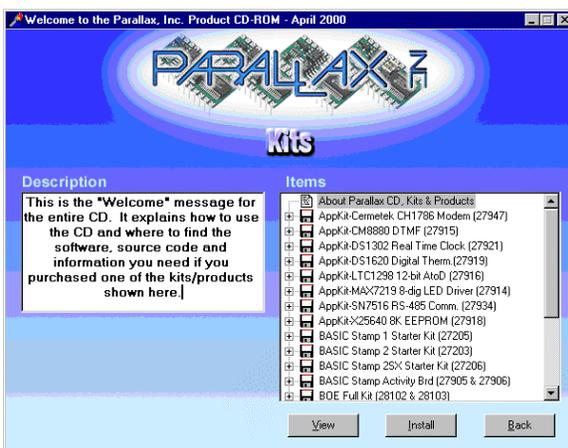

Figure 1.21: Welcome application (a) Kits page, and
The Parallax CD has a browsing program called the Welcome application that runs automatically after the CD is placed in your computer's CDROM drive. Figure 1.21 (a) shows the browser as it appears the first time the CD is placed in the computer's drive. Figure 1.21 (b) shows the browser as it normally appears when you run the Welcome application.
- ❑ If this is not your first time running the Welcome application, the Parallax page shown in Figure 1.21 (b) will display instead of the Kits page. Skip the next checklist instruction.